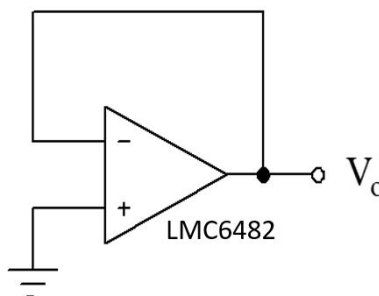

Figure PL2.2
- (h) Assuming that the circuit depicted in Fig. PL2.2 uses the same op amp model as defined in 'lmc6482.mod', what do you expect for the value of V_o ? What is the source of this voltage?